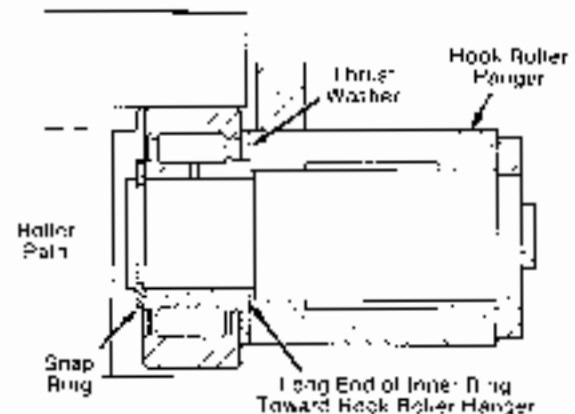

Figure 2 Hook Roller with Snap Ring (SC200 and 4100W)
1. If the thrust washers have grease grooves, the grooves must be toward the hook rollers (see Figures 2 and 3).
4. Models SC200 and 4100W — **Bearing-type hook rollers retained on the shafts with a snap ring** (see Figure 2) must have the long end of the inner rings toward the hook roller hanger.